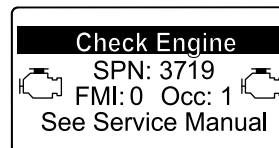

Figure 53
- If a recovery regeneration is needed, the InfoCenter displays engine warning SPN 3719, FMI 16 (Figure 53) and the engine computer derates engine power to 85%.